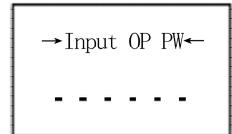
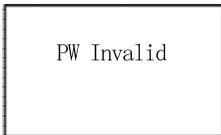

Fig. 7 Password input interface
Fig. 8 Wrong password interface
- 1) In standby mode of the host, press Menu key (enter the password), and the LCD will display as shown in Figure 7. The host waits for password input and identification. After entering the 6-bit password, press OK. If the password is entered incorrectly, the LCD screen will, as shown in Figure 8,